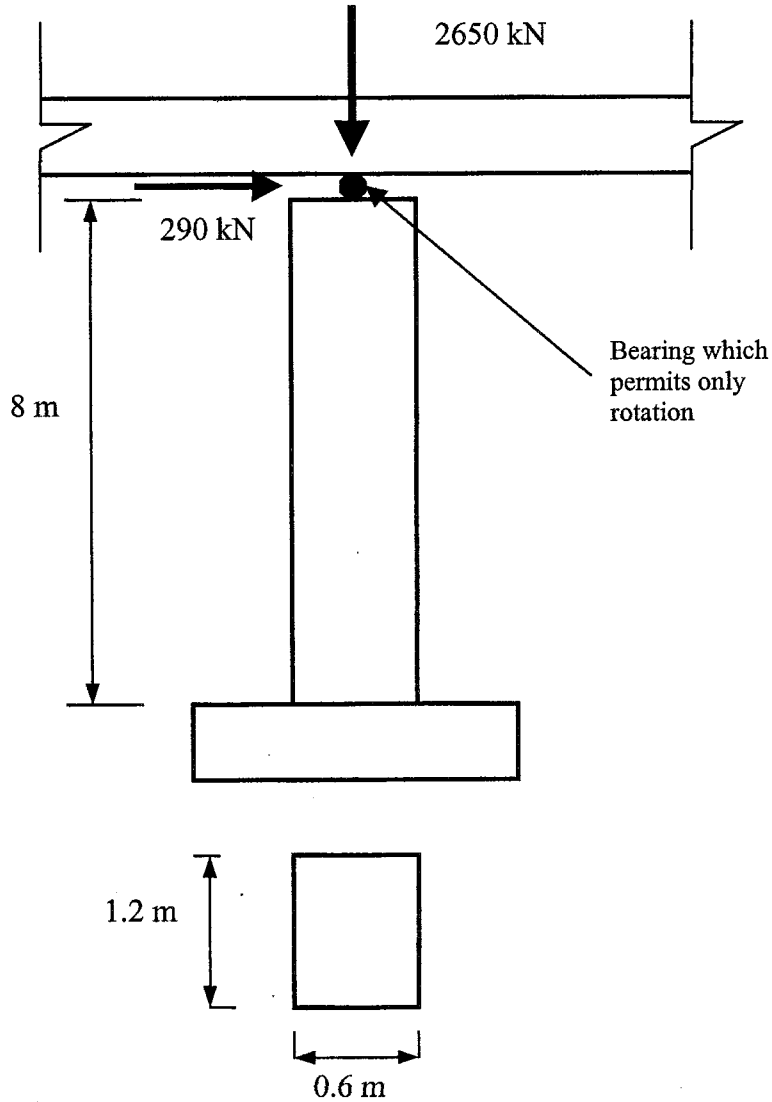

Figure 3.0 : Bridge Column
3. (b) Figure 3.0 shows a reinforced concrete bridge column. The loads indicated are design loads at the ultimate limit state. Design reinforcement for the column, at the ultimate limit state, if the characteristic strengths of the reinforcement and concrete are 425 N/mm^2 and 40 N/mm^2 respectively. Assume that the articulation of the deck is such that a) sidesway is prevented and b) sidesway can occur.